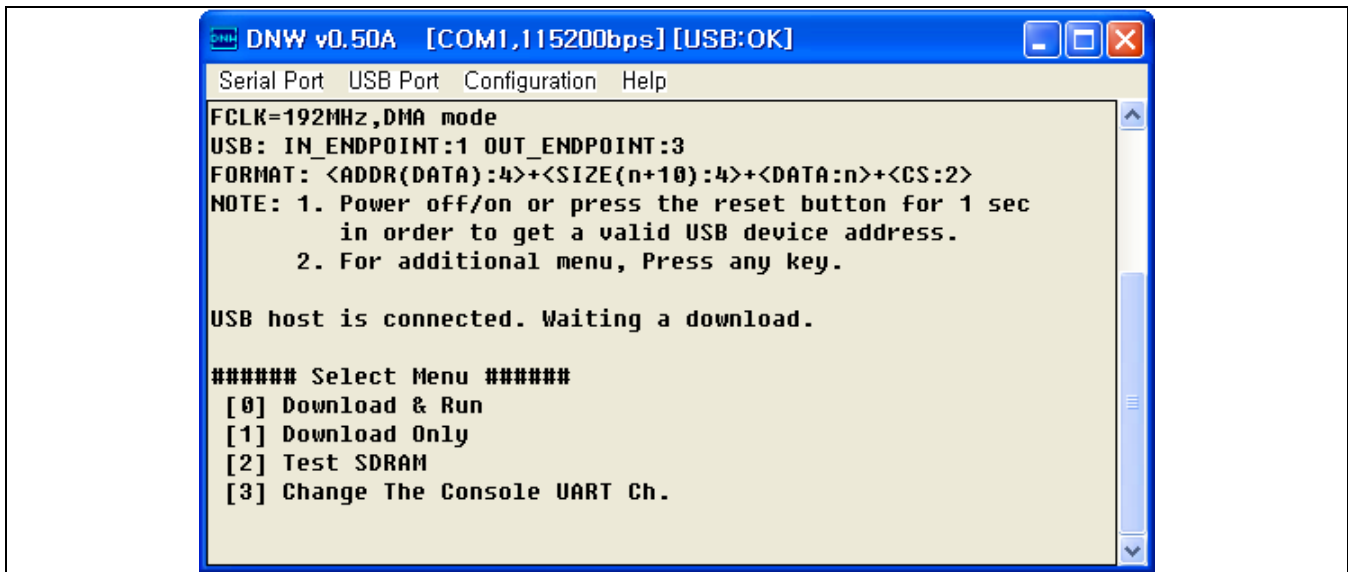

Figure 3-5. DNW Window to Download
4. To see the additional menu, press any key on the DNW window (See Figure 3-5).